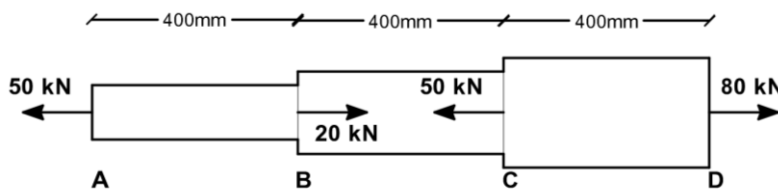

Figure-5
- (c) A bar ABCD of circular section is rigidly fixed at ends A and D. The bar is subjected to axial loads as shown in **Figure-5**. Length $AB = BC = CD = 400$ mm. The diameter of portions AB, BC and CD are 25mm, 50mm and 75mm, respectively. Find the loads shared by each portion of the bar and change in length of each portion of the bar, neglecting any bending effects. Take $E=200\text{kN/mm}^2$. 07